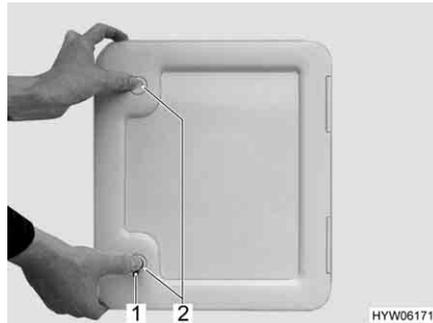

Fig. 31 Flap for toilet cassette
- Insert key into locking cylinder (Fig. 31,1) of the push-button lock and turn a quarter turn.
- Press both push-button locks (Fig. 31,2) simultaneously with your thumb and open the flap for the toilet cassette.
- Insert key into locking cylinder (Fig. 31,1) and turn a quarter turn.